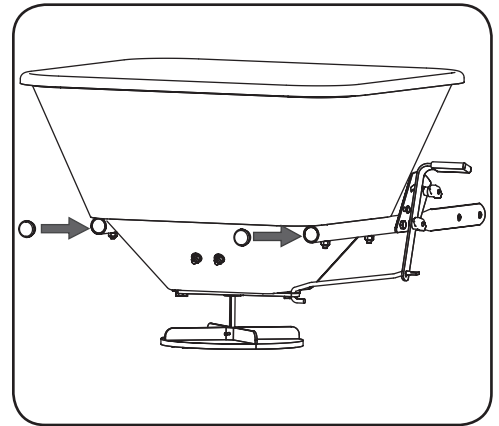

Figure 2-15
- If not already installed, insert plugs into rear ends of the single frame tubes. See Figure 2-15.